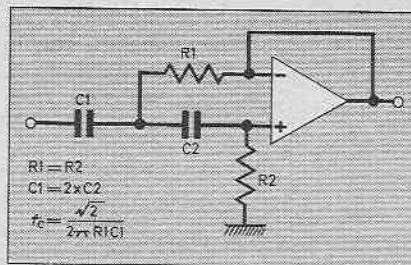

Fig. 10.11. A high pass active filter again with unity gain until the cut-off is approached.
10.3. What is the cut-off frequency of Fig. 10.11 if C_1 is $0.02\mu F$, C_2 $0.01\mu F$ and $R_1 = R_2 = 110k\Omega$: